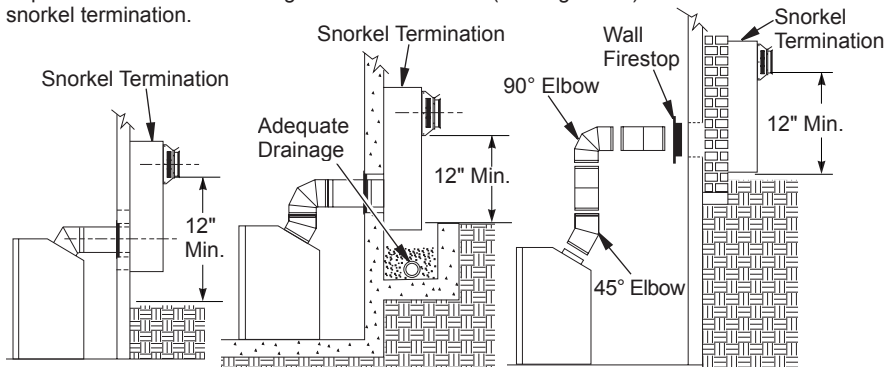

Figure 16 - Snorkel Termination Configurations for Below Ground Installation
- Snorkel terminations are required when minimum clearance to grade cannot be met (see Figure 16 on page 13).
Snorkel terminations are available for installations requiring a vertical rise on the exterior of the building. If installing snorkel termination below grade, you must provide proper drainage to prevent water from entering snorkel termination (see Figure 16). Do not back fill around snorkel termination.